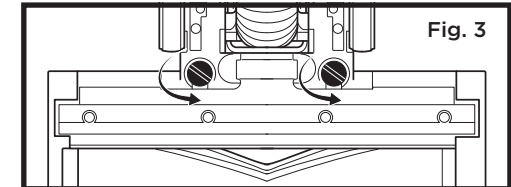

Fig. 3
4. Once unlocked, remove the soleplate from the nozzle (Fig. 3).